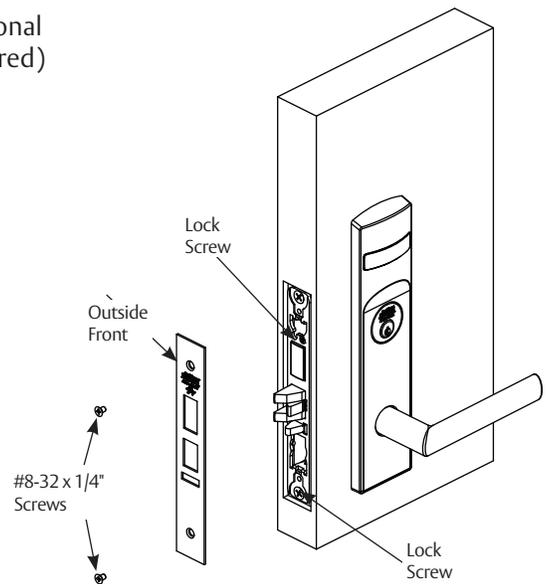

Figure 26
1. Tighten the two (2) lock screws completely. (Figure 26)
2. Attach outside front with two (2) flat head screws #8-32 x 1/4".